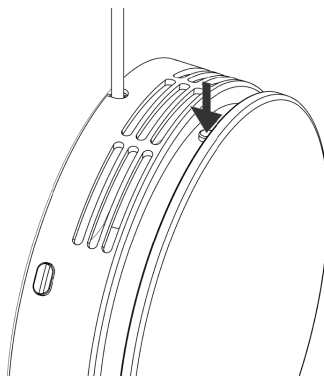

Figure 27 - Start the unit
2. Touch the button on the top to start the unit, see Figure 27 below.